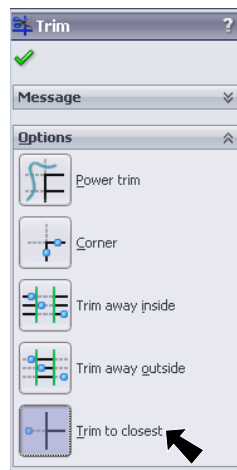

Fig. 11
Step 1. Click **Trim Entities**  (S) on the Sketch toolbar.
Step 2. In the Property Manger select **Trim to closest** , Fig. 11.